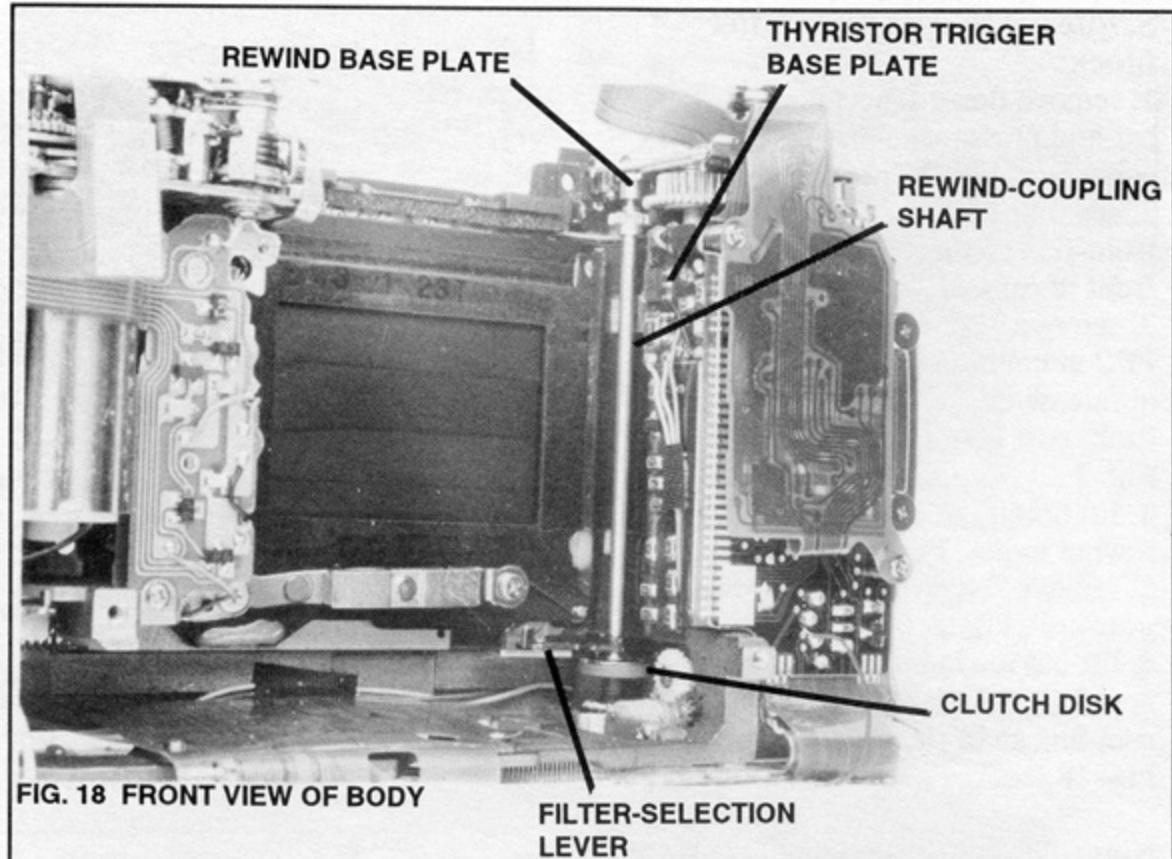

FIG. 18 FRONT VIEW OF BODY
6. lift out rewind motor and rewind-gear unit together with rewind-coupling shaft (leave wires attached), Fig. 18
6. Before replacing the rewind-motor screws, seat the rewind-coupling shaft. Fit the bottom end in the pivot hole of the rewind-gear unit—tilt the rewind-coupling shaft as necessary until the clutch disk sits under the filter-selection lever, Fig. 18. Then seat the upper end of the rewind-coupling shaft in the brass bearing (on the rewind base plate), Fig. 18.